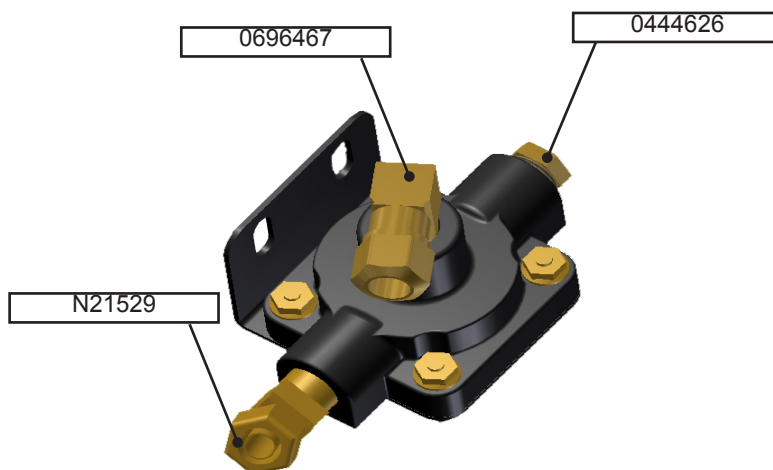

Figure 2 - Quick-Release Valve Assembly N90138
- 1.2. Install the fittings on quick-release valve N90138. See Figures 2, 3 and 4 for their positions. Apply an even coat of liquid sealant, such as Loctite 565, over the entire circumference of the first four threads of the male coupling.